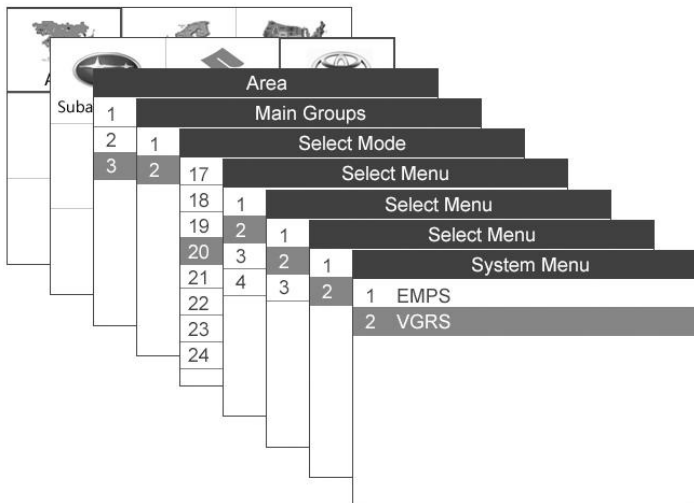

Figure 13.1
- J. Wait for a series of vehicle identification screens appears for user to identify the vehicle. (Figure 13.1) On each screen that appears, use the **UP/DOWN** scroll button to select the correct option and then press the **OK** button. Do this until the vehicle is completely identified.